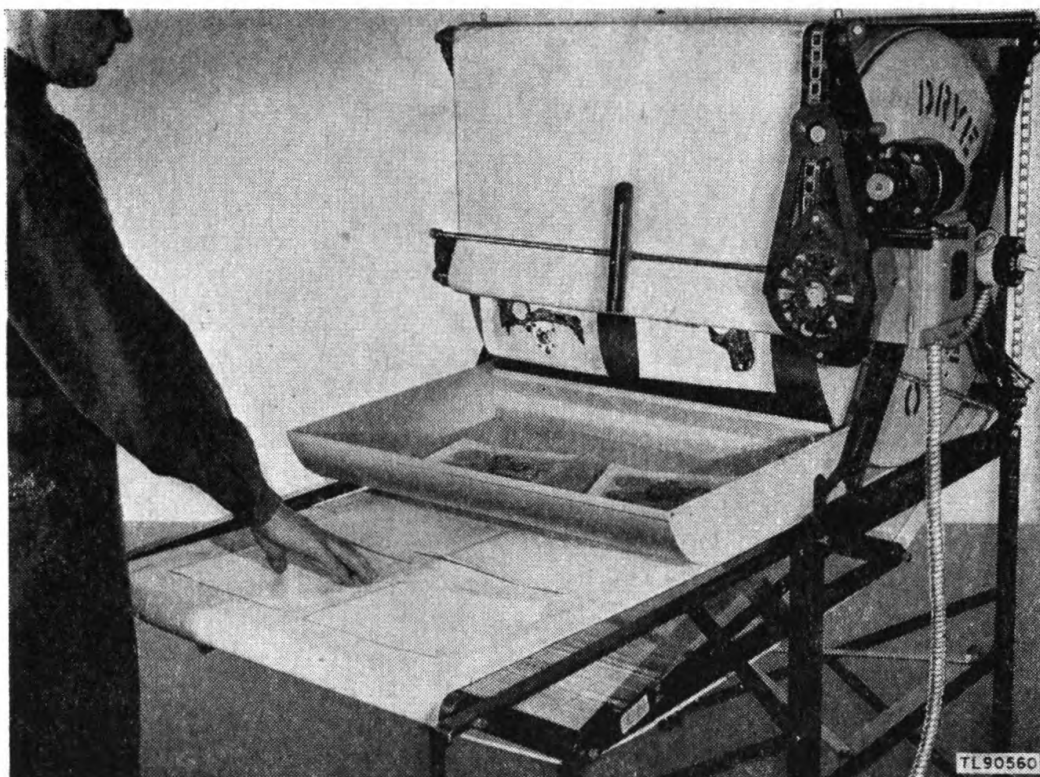

Figure 8. Dryer PH-176 in operation.
i. Feeding Table. The front portion of the apron, which runs over a feeding table roller, forms the feeding table, on which prints are placed to be carried to the drum. The feeding table arms which extend forward from the legs of the base carry the roller (fig. 8).
b. Wash prints sufficiently before drying them. Improperly washed prints contain chemicals which will rot and stain the apron. When prints have been washed and are ready for drying, *drain the surplus water from them*, and place them *face down* on the feeding table portion of the apron (fig. 8). Lay the print on the apron;